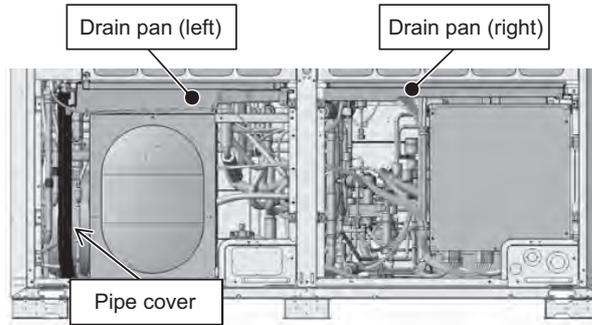

Figure 2
- (3) Remove the cable straps holding the weak and strong electrical wirings. (See Figure 2.)
- (5) Remove the drain pan cover by unscrewing the screw and cutting the cable tie. (See Figures 2 and 3.)
- (6) Remove the drain pan by unscrewing the two screws. (See Figure 2.)
Be sure to remove the two rod holders holding the check joints to the drain pan. (Figures 2 and 3 show the cable ties to be cut.)
- (2) Remove the drain pan cover by unscrewing the screw and cutting the cable tie. (See Figures 2 and 3.)
When re-placing the drain pan cover after the completion of maintenance work, make sure that the silicon tube is properly placed on the defrost pipe, and then fix the drain pan cover in place with a cable tie. (Figures 2 and 3 show the cable ties to be cut.)
- (3) Remove the drain pan by unscrewing the two screws. (See Figure 2.)